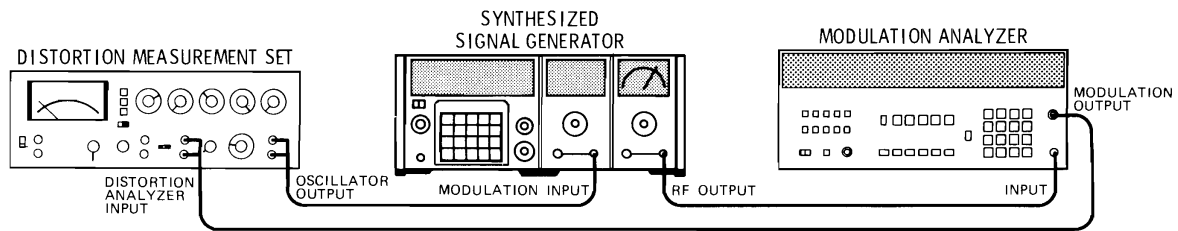

Figure 4-17A. Phase Modulation Distortion Test Setup
1. Connect equipment as shown in Figure 4-17A